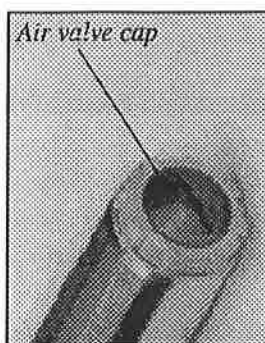
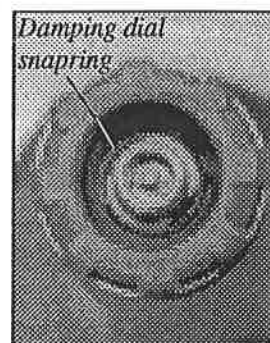

Fig. 3
Fig. 4
5. Remove the air valve cap (Fig 3).
6. Set the damping dial at maximum (4).
7. Press down on the top of the damping dial and remove the small snapping at the base of the schraeder valve (Fig. 4).